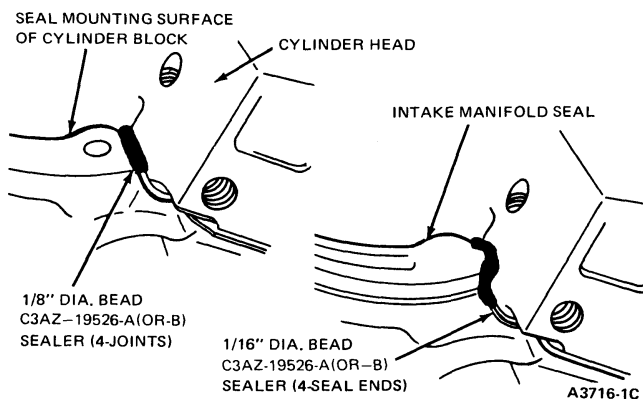

FIG. 17 Typical RTV Sealer Installation—Intake Manifold
1. Clean the mating surfaces of the intake manifold, cylinder heads and cylinder block. Use a solvent such as lacquer thinner, chlorothane or tri-chloroethylene. Apply a 1/8 inch bead of silicone rubber sealer at the points shown in Fig. 17. **Caution: Do not apply sealer to waffle section of end seals as the sealer will rupture the seal material.**
3. Apply a 1/16 inch bead of the above sealer to the outer end of each intake manifold seal for the full width of the seal (4 places). See Fig. 17. **CAUTION: DO NOT APPLY SEALER TO WAFFLE SECTION OF END SEALS AS THE SEALER WILL RUPTURE THE SEAL MATERIAL.** **Note: This sealer sets up in 15 minutes, so it is important that assembly be completed promptly. Do not drip any sealer into the engine valley. Position the intake manifold valley baffle onto the block and cylinder heads with the alignment notches under the dowels on the cylinder heads. Be sure the holes in the valley baffle are aligned with the holes in the cylinder head.**